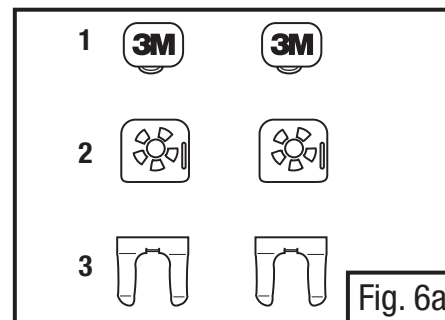

Fig. 6a
- Fig. 6a shows the pivot kit. From the top down, the part marked “3M” is the post (1), the next part is the “back plate” (2), and the bottom part in Fig. 6a is the “metal spring clip” (3).